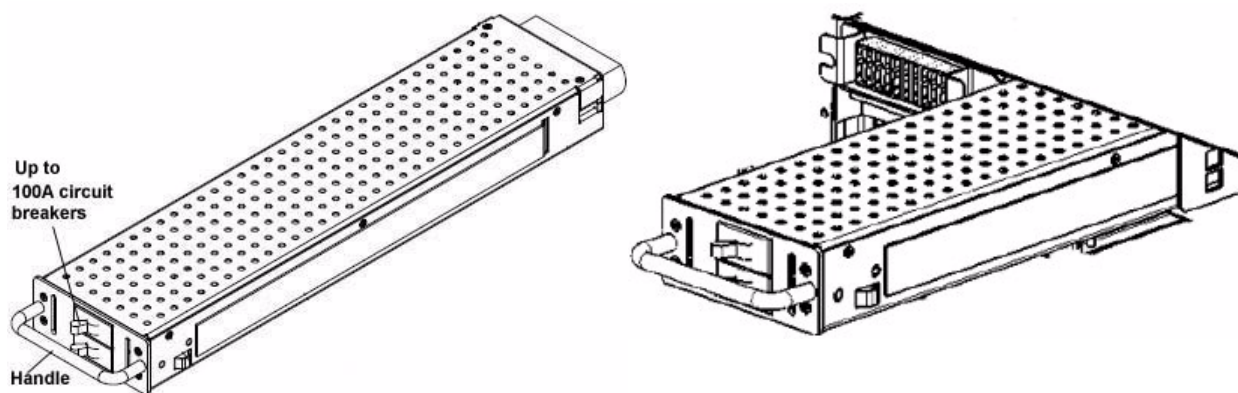
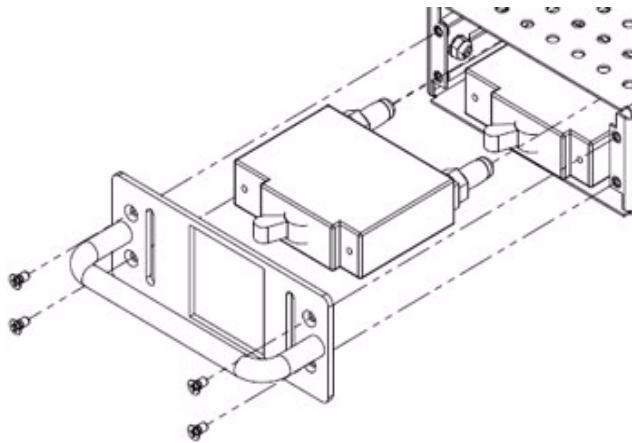

Figure 1 - Model #MDS-DCBM-SP100
Figure 2 - Installing a breaker
1. To install a new module, hold the module by the handle (see Figure 1), align it with the left side of the shelf (see Figure 2), and push in until it fits firmly into the receptacles at the back of the module slot.